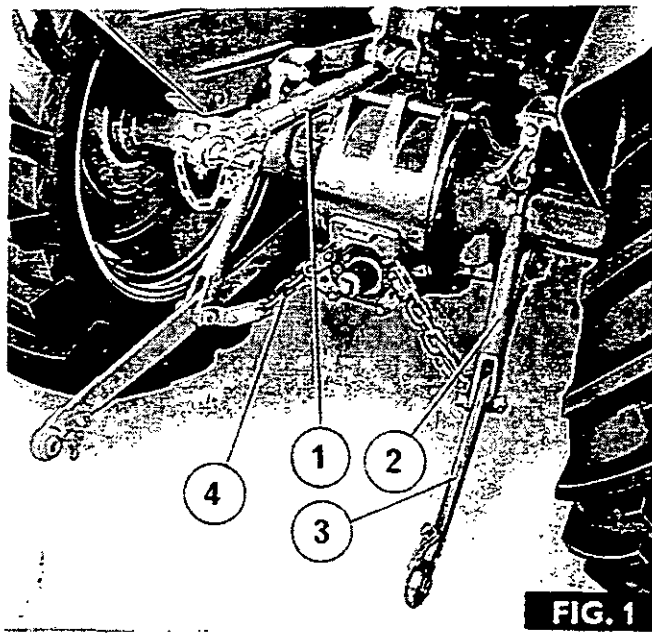

FIG. 1
Fig. 1. The three point linkage controls the movements of the mounted and semi-mounted implements. The linkage comprises four main components:— top link (1), lower links (3), lift rods (2), checks chains (4).